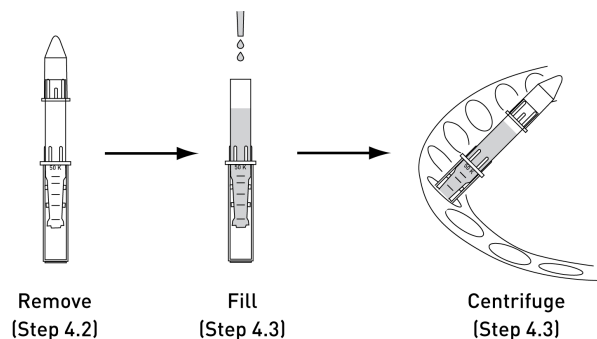

Figure 2. Wash the antibody concentrator.
- 2.2 Add 1X Tris, TBS, or PBS to a total volume of 2 mL to the antibody concentrator as shown in Figure 2.